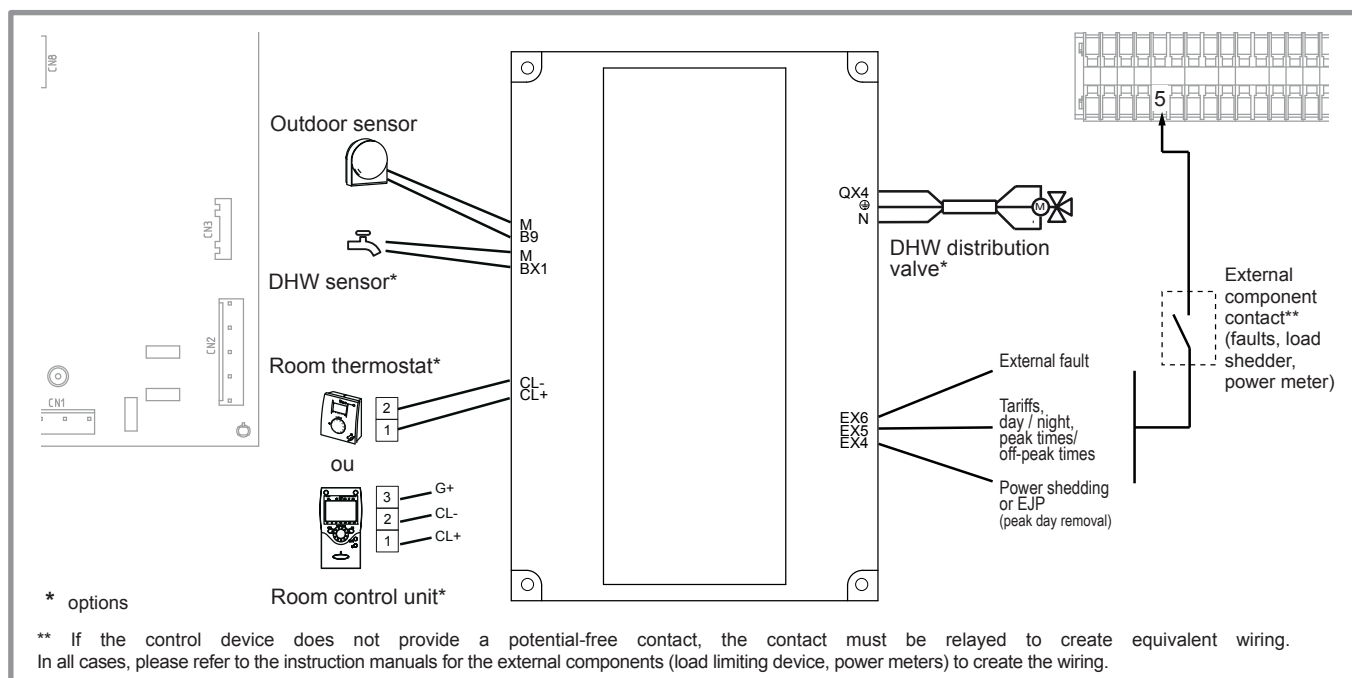

figure 8 - Connections to regulator (accessories and options)
- Connect the outdoor sensor to the M and B9 terminals on the heat pump control board (see figure 8).
- Connect the sensor to one of the **CL+** and **CL-** terminals (see figure 8).
- Connect the domestic hot water sensor to terminal BX1 and M (see figure 8).